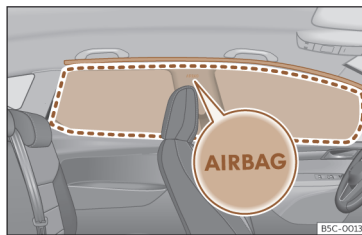

Fig. 34 Location of head-protection airbags.
Head-protection airbags are on both sides of the passenger compartment, above the doors >>> **Fig. 34** and their location is indicated with the word "AIRBAG".
The framed area is covered by the head-protection airbag when it is deployed (deployment area) >>> **Fig. 34**. Therefore, objects should never be placed or mounted in this area >>> ⚠.
- Ensure that children are correctly seated in their seats and that their heads are not in the deployment zone of the head airbags >>> **Fig. 34**, as deploying airbags could hit them and cause serious injury.